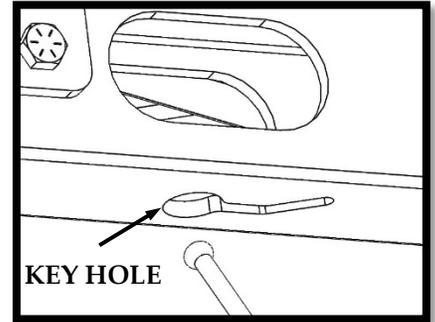

Figure 1
18. Anchor orange cable to key slots on the long Lower Frame rails, see Figure 1. Orange cable mount keyholes are on the bottom of the Lower Frame below Cable Slot label. Anchor opposite end to slot in stabilizer leg. Repeat for remaining orange cables.
3. Turn on the red Master Power switch to the SatRunner, see Figure 1 red circle.
4. Wait 10 seconds, and then push the green Winegard Power button, see Figure 1 green circle. The satellite computer screen Figure 1 blue rectangle will light up and go through a diagnostic check.